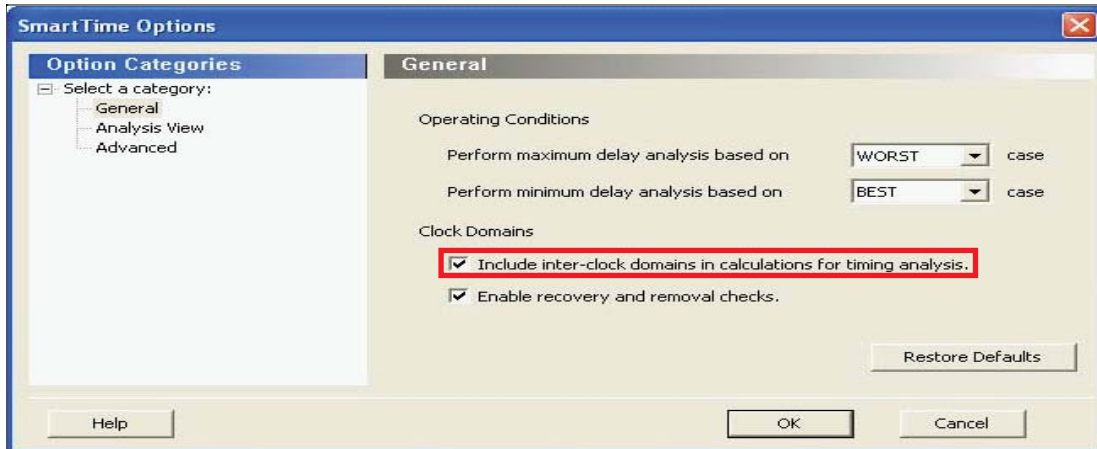

Figure 59 • Enabling Inter-Clock Domain Analysis
2. Select the **Include inter-clock domains in calculations for timing analysis** check box in the SmartTime Options dialog box to select inter-clock domain analysis, as shown in Figure 59. Click **OK**.